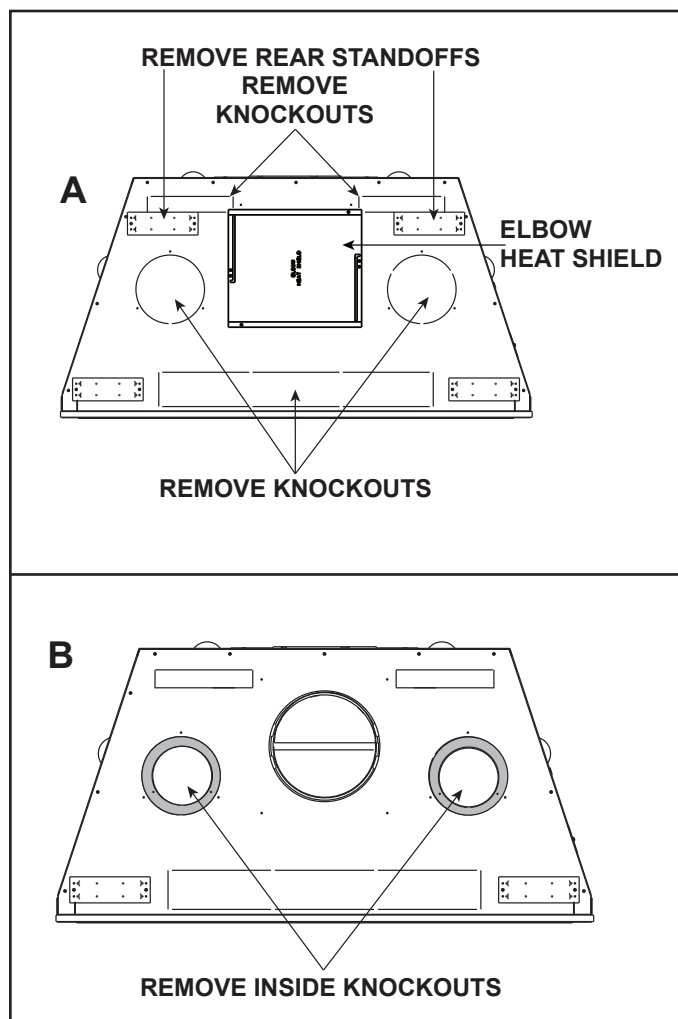

Figure 7 Remove Knockouts
1. Remove rear standoffs and discard. Retain two screws. See Figure 7.
2. Remove five knockouts from outer wrap as shown in Figure 7 (A). It is recommended to use a tin snips for removal of knockouts in order to avoid damage to appliance. Remove the remaining two knockouts, located inside the upper heat shield, as shown in Figure 7 (B). Discard knockout pieces and ensure no other material or debris is blocking the hole created by removing the knockout.
3. Remove the elbow heat shield. See Figure 7.A.